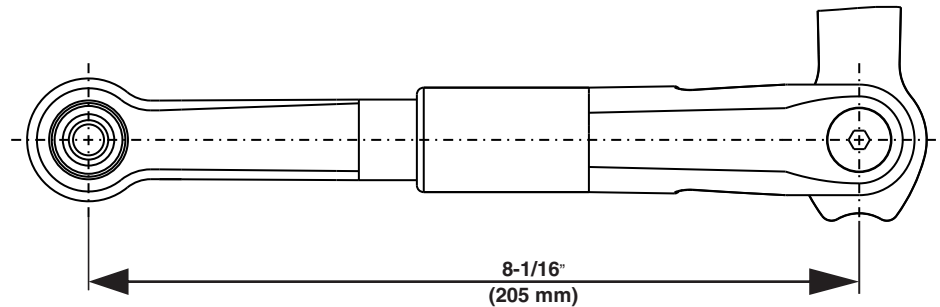

Figure 6
3. Refer to Figure 6, and **ADJUST** door arm length to 8-1/16" (204.77 mm).